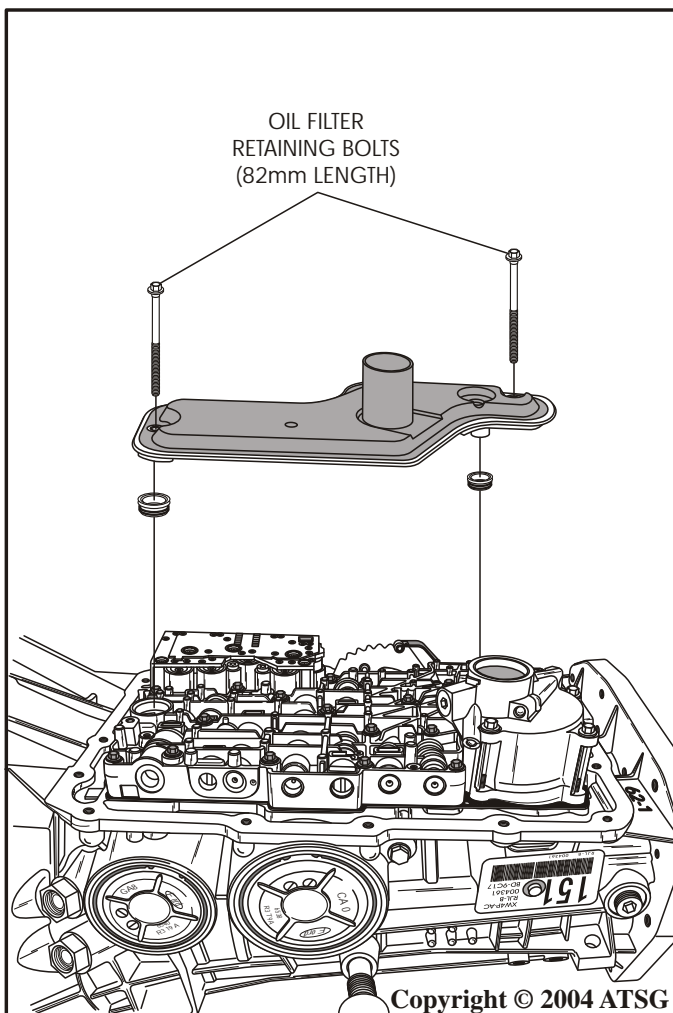

Figure 175
79. Install new filter seals on new filter and install filter assembly, as shown in Figure 175.